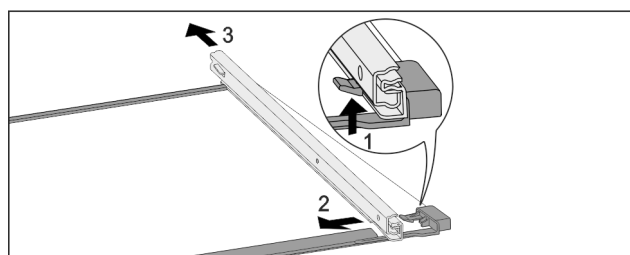

Fig. 175 Glass shelf with rails
- Push up front click-in hooks. Fig. 175 (1)
- Move the pull-out rails to the side Fig. 175 (2) and to the rear Fig. 175 (3).